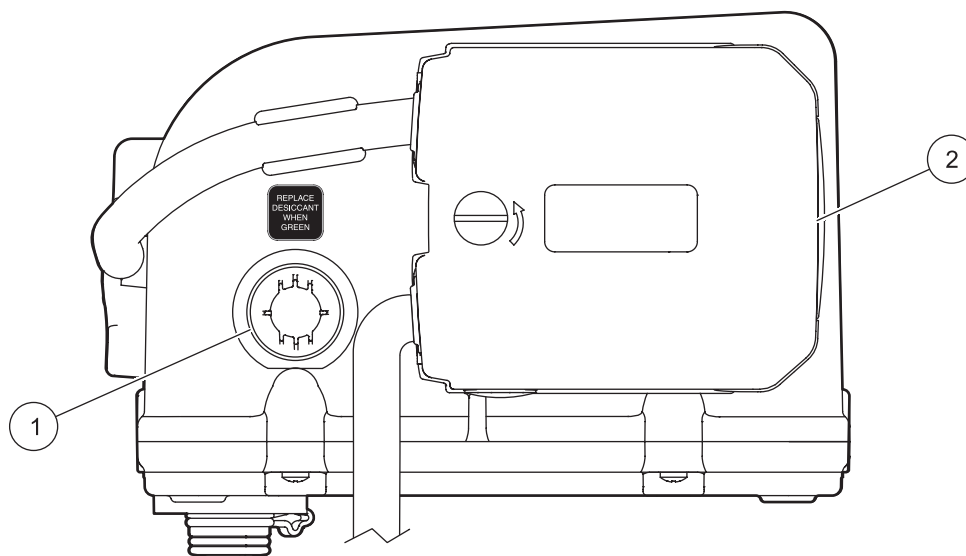

Figure 27 Side view of controller—pump and desiccant
Monitor the desiccant color through the clear plastic window (Figure 27). The color will change from yellow to green when the desiccant is saturated.
1. Unscrew and remove the desiccant holder from the controller (Figure 27).